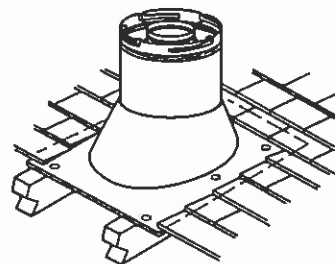

FIGURE 22
I. Install the roof flashing - Extend the vent sections through the roof structure. Install the roof flashing over the vent section and position such that the vent column rises vertically (use carpenter's level) (*Figure 22*). Nail along perimeter to secure flashing or adjust roofing to overlap the flashing edges at top and sides only and trim where necessary. Seal the top and both sides of the flashing with waterproof caulking.